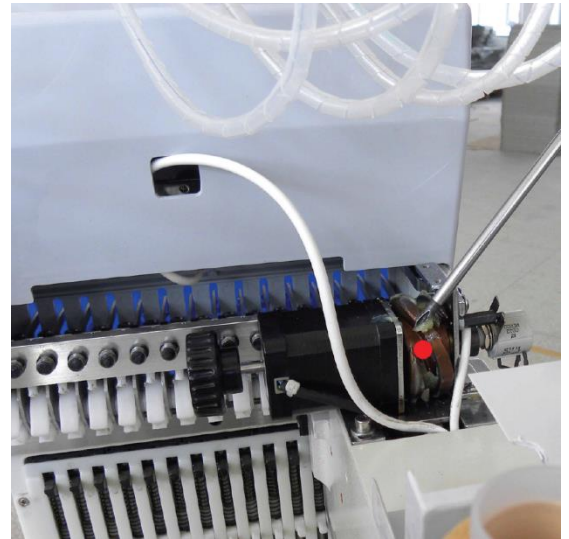

Figure 94 Color Change Cam
- b. Color Change Cam (Fig. 94).